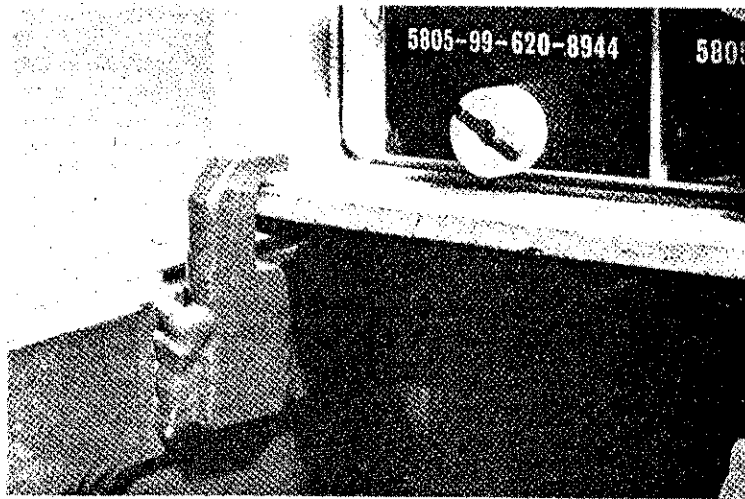

Fig 10 MOUNTING BRACKETS
- (1) Release the eight securing clamps on the (Magneto) Switchboard and remove the cover.
- (2) Remove the Accessories from the cover, (the Protection Unit, the Earth Spike and the Hand / Headset) and lay them in a convenient place for future use. Do not remove the 41-way connector unless the Switchboard is to be used with an additional unit e.g. the Exchange Unit.
- (3) Place the cover (inside uppermost) on a table or other flat surface, for use as a base for the Switchboard.
- (4) Stand the Switchboard on the cover, and tilt the Switchboard forward so that the mounting brackets attached to each side of the cover fit over the front surround of the Unit. (Fig 10).